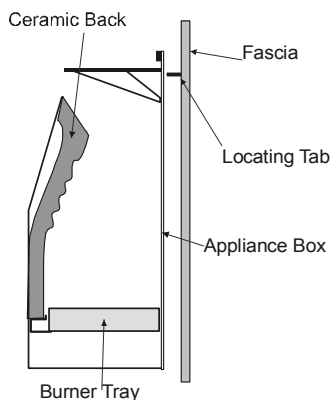

Figure 66
4. Offer the mounting frame up to the appliance opening, taking note of the locating tab projecting to the rear of the mounting frame as shown in **Figure 66**.